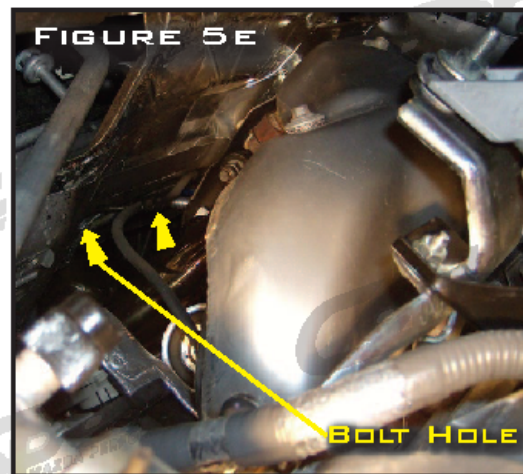

FIGURE 5E
E. PUT A SMALL AMOUNT OF ANTI-SEIZE ON THE THREADS OF THE UPPER O₂ SENSOR AND INSTALL IT INTO THE UPPER PORT ON THE DOWNPIPE. REROUTE THE WIRE HARNESS AS SHOWN IN FIGURE 5E BY CONNECTING THE WIRING COIL WHICH WAS EARLIER REMOVED FROM